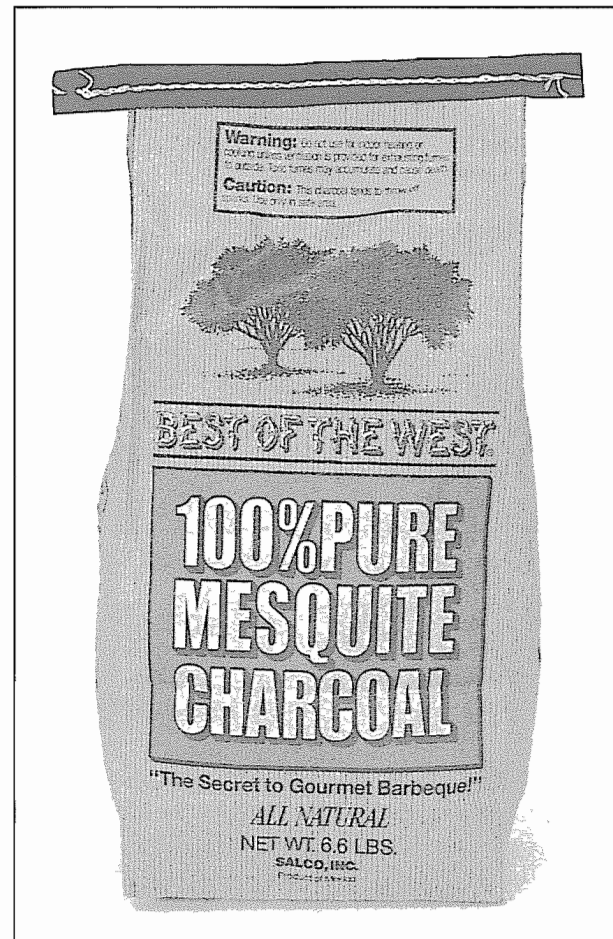
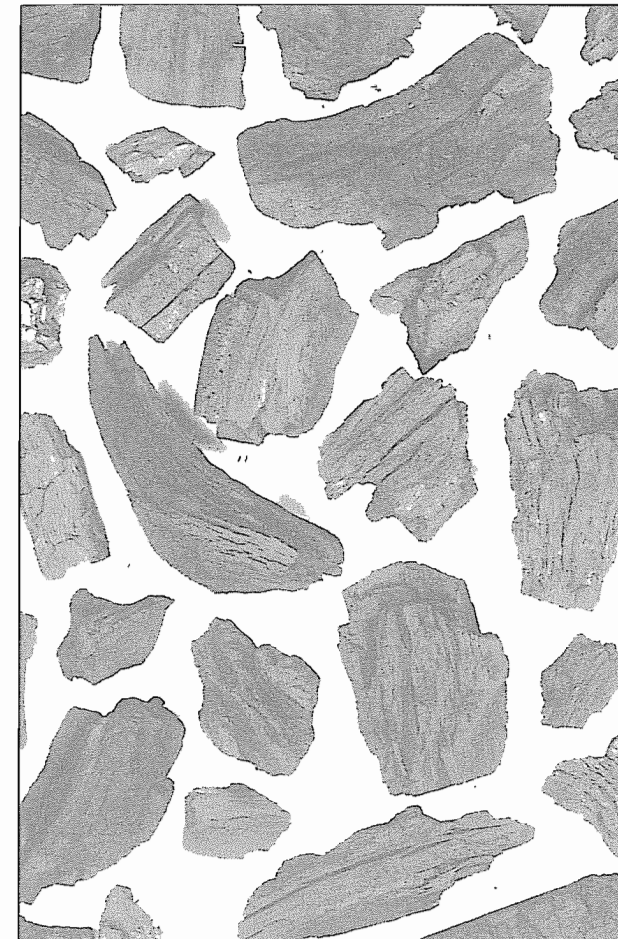

Figure 6-33. A bag of mesquite Bar-B-Que charcoal.
Figure 6-34. Chunks of mesquite charcoal (shown smaller than actual size).
**Mesquite charcoal** is a popular Bar-B-Que fuel, and you'll find it where Bar-B-Que supplies are sold. Mesquite charcoal is made from the hard wood of the desert mesquite bush. It usually comes in a paper bag, containing large chunks that weigh several ounces each. **Figure 6-33** is a photo of a bag that I bought at a supermarket, and **Figure 6-34** is a photo (*smaller than scale*) of some of the contents. See **page 207** for instructions on how to prepare mesquite charcoal for use as a rocket fuel.